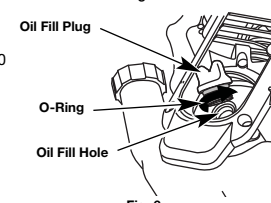

Fig. 6
3. Remove the oil fill plug from the crankcase (Fig. 6).